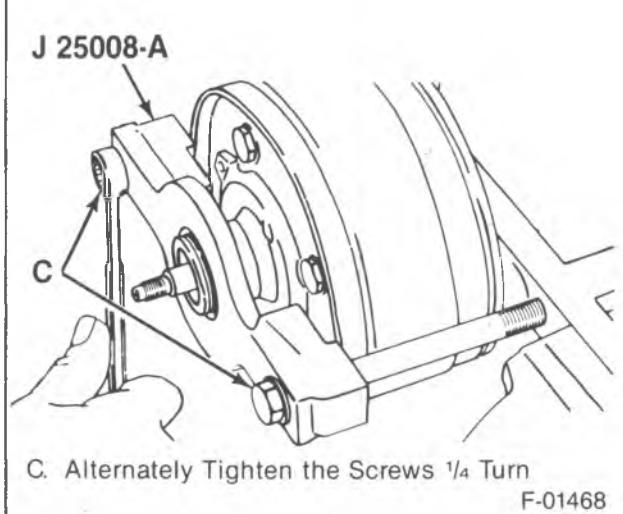

Figure 25—Installing the Shell
1. Seals (19) to the front and rear of the shell (18).
2. Shell (18) to the cylinder (22) with J 25008-A (figure 25).
3. Retaining strap (32).
4. Rotor (5) and bearing (6) assembly, clutch coil (7) and pulley rim with J 26271-A.
5. Clutch drive hub (3).